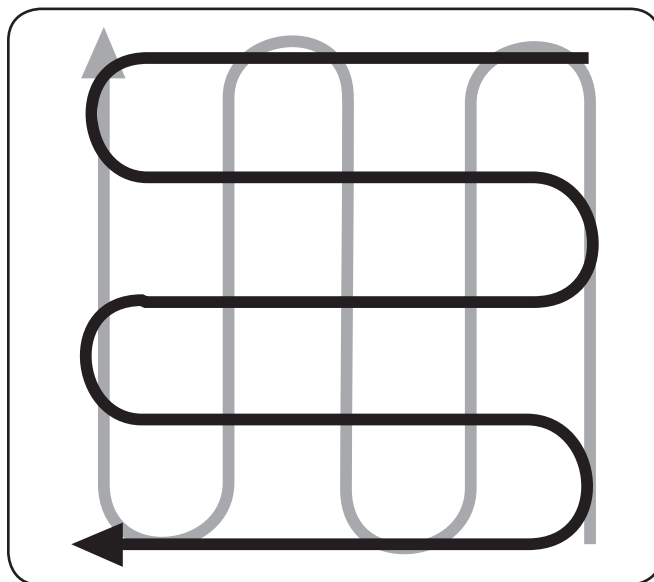

Figure 5-12
- When finished in one direction, make a second pass at a right angle. See Figure 5-12. Overlap each pass for best results. In very hard ground it may take three or four passes to thoroughly pulverize the soil.